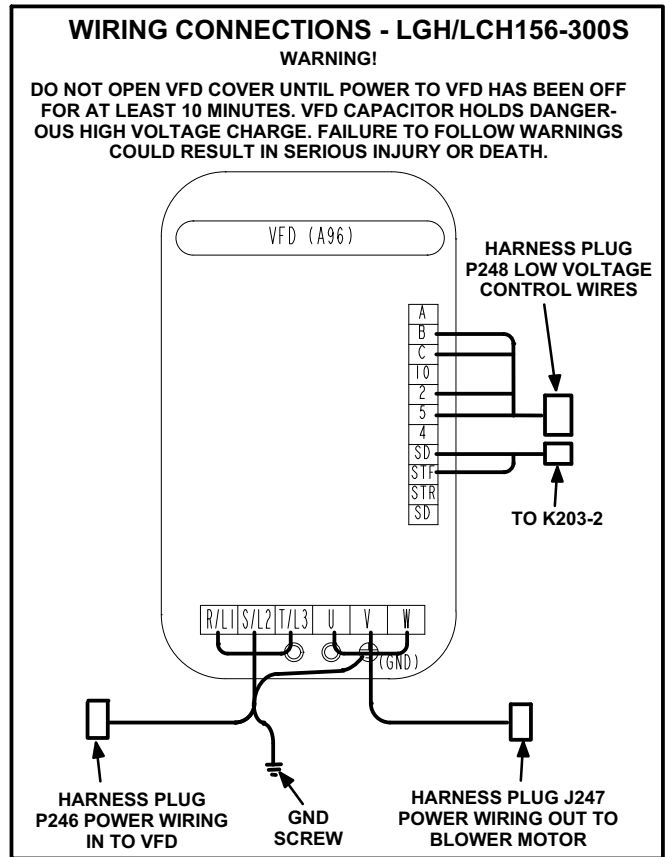

FIGURE 6
- Open the lower cover on the VFD to access wire connections. Disconnect the wires from the terminals, making special note of the wire color and stamping that was connected to each terminal. See figures 6 through 10.